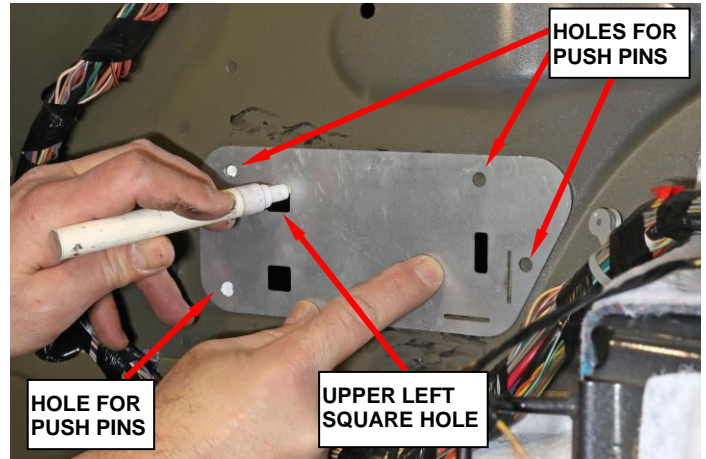

Figure 24 – Marking Body with Reinforcement Plate Holes
16. Set the reinforcement plate in place on the body as shown. Note that the body structure is in the way of the upper left square hole. Use a marker, pencil or paint pen to trace the upper left square hole onto the body. Also take this opportunity to mark the four round holes which will be drilled for push pins (Figure 24).